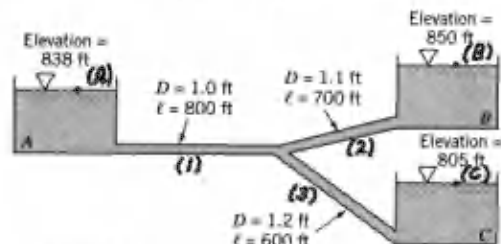

FIGURE P8.16R
8.16R (Multiple pipes) The three tanks shown in Fig. P8.16R are connected by pipes with friction factors of 0.03 for each pipe. Determine the water velocity in each pipe. Neglect minor losses.